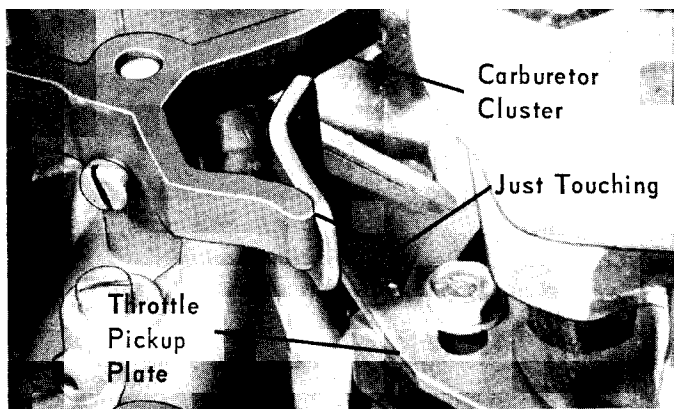

Figure 4. First Throttle Pickup Tab Adjustment
12. Loosen throttle pickup plate screws. (Figure 4)
- tab (without nylon sleeve) just touches carburetor cluster. (Figure 4)